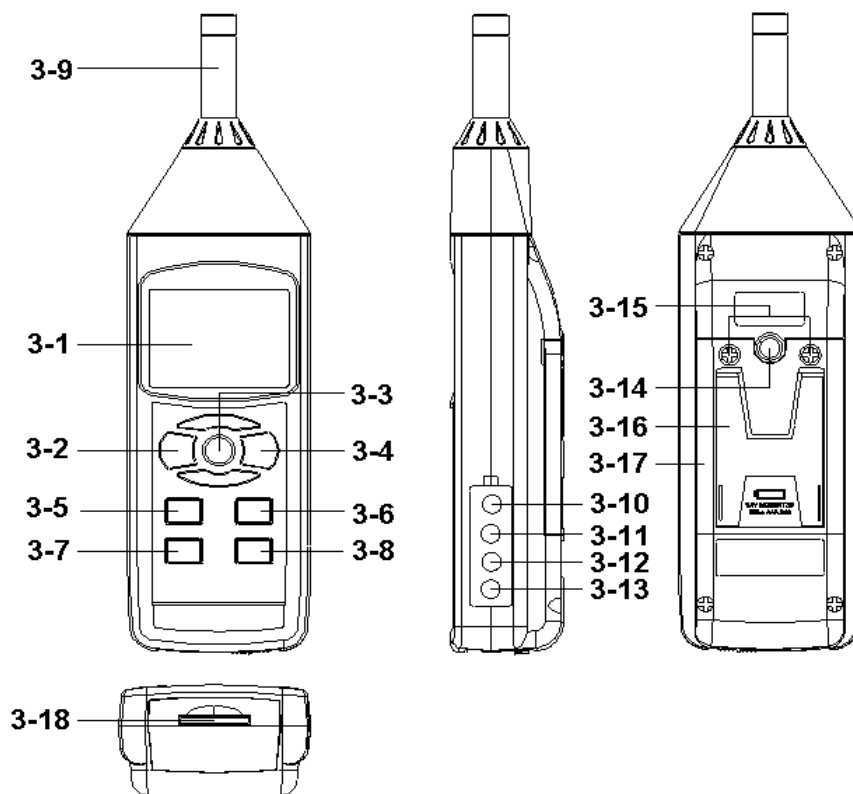

Fig. 1
- 1) Power on by pressing the " Power On/Off Button " ( 3-2, Fig. 1 ) , the meter's default function is " Auto range ", " A frequency weighting " & " Fast time weighting ". The LCD display will show the unit " A. Fast Auto ".
- 2) Select " A " or " C " frequency weighting by pressing the " A/C Button " ( 3-6, Fig. 1 ) .
- 3) Determine proper measuring range by pressing the " Range Button " ( 3-5, Fig. 1 ).
Under the auto range, press the " Range Button " ( 3-5, Fig. 1 ) once step by step will enter to the manual range ( range 1, range 2, range 3 ) and auto range in sequence. There are still 3 manual ranges for your choice :
4) According to various measuring sound source, select the Time Weighting ( Fast or Slow ) by pressing the " Time Weighting Button " ( 3-7, Fig. 1 ).
During the measurement, press the " Hold Button " ( 3-3, Fig. 1 ) once will hold the measured value & the LCD will display a " HOLD " symbol.
- 1) The data record function records the maximum and minimum readings. Press the " REC Button " ( 3-4, Fig. 1 ) once to start the Data Record function and there will be a " REC " symbol on the display.
- a) Press the " REC Button " ( 3-4, Fig. 1 ) once, the " REC MAX " symbol along with the maximum value will appear on the display.
If intend to delete the maximum value, just press the " Hold Button " ( 3-3, Fig. 1 ) once, the display will show the " REC " symbol only & execute the memory function continuously.
- b) Press the " REC Button " ( 3-4, Fig. 1 ) again, the " REC MIN " symbol along with the minimum value will appear on the display.
If intend to delete the minimum value, just press the " Hold Button " ( 3-3, Fig. 1 ) once, the display will show the " REC " symbol only & execute the memory function continuously.
After power ON, the " LCD Backlight " will light automatically. During the measurement, press the " Backlight Button " ( 3-2, Fig. 1 ) once will turn OFF the " LCD Backlight ".
Prepare a " SD memory card " ( 1 GB to 16 GB, optional ), insert the SD card into the " SD card socket " ( 3-18, Fig. 1). The front panel of the SD card should face against the the down case.
Press the " REC Button ( 3-4, Fig. 1 ) once , the LCD will show the text " REC " , then press the " Logger Button " ( 3-8, Fig. 1 ), the " REC " will flashing , at the same time the measuring data along the time information will be saved into the memory circuit.
During execute the Datalogger function , if press the " Logger Button " ( 3-8, Fig. 1 ) once will pause the Datalogger function ( stop to save the measuring data into the memory circuit temporally ). In the same time the text of " REC " will stop flashing.
*If press the " Logger Button " ( 3-8, Fig. 1 ) once again will execute the Datalogger again, the text of " REC " will flashing .*
During pause the Datalogger, press the " REC Button " ( 3-4, Fig. 1 ) continuously at least two seconds, the " REC " indicator will be disappeared and finish the Datalogger.
Press the " REC Button ( 3-4, Fig. 1 ) once , the LCD will show the text " REC ", then press the " Logger Button " ( 3-8, Fig. 1 ) once, the " REC " will flashing once, at the same time the measuring data along the time information and the Position no. will be saved into the memory circuit.
- \* During execute the Manual Datalogger, press the " SET Button " ( 3-7, Fig. 1 ) once, then use the " ▲ Button " ( 3-5, Fig. 1 ) or " ▼ Button " ( 3-6, Fig. 1 ) to set the measuring position ( 1 to 99, for example room 1 to room 99 ) to identify the measurement location. After finish the adjustment location no., press the " Enter Button " to entry.*
Press the " REC Button " ( 3-4, Fig. 1 ) continuously at least two seconds, the " REC " indication will be disappeared and finish the Datalogger.
During the measurement if press " Time check Button " ( 3-5, Fig. 1 ) > 2 seconds, the lower LCD display will present the time information of Year/Month, Date/Hour, Minute/Second.
During the measurement , If press " Sampling Check Button " ( 3-6, Fig. 1 ) > 2 seconds, the lower LCD display will present the Sampling time information in second unit.